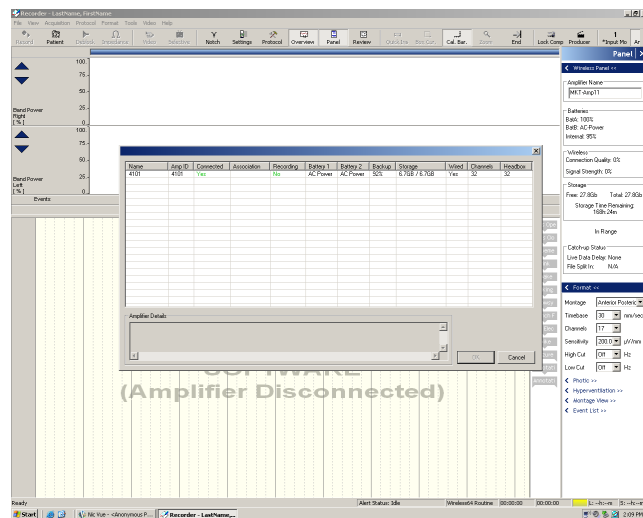

Figure 2.
1. Each amplifier has a unique identifier (Figure 2). Select the amplifier from the Wireless Panel dialog with the same identifier as your amplifier. If the dialog in Figure 2 does not appear and you see an “Amplifier Disconnected,” select the proper Protocol from the Protocol menu to view the wireless panel dialog.